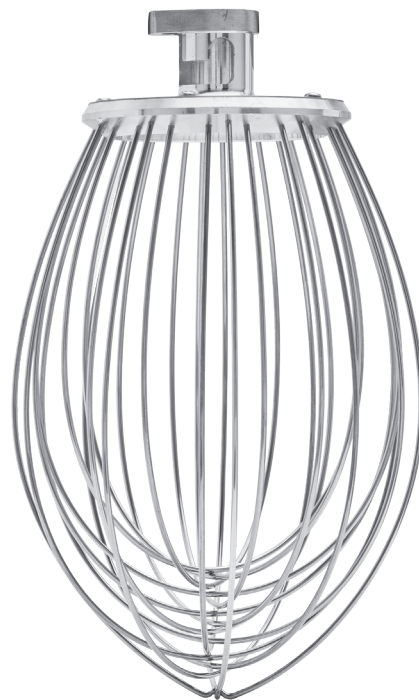

Fig. 9
- Close the bowl guard wire cage; rotate it to your left until it stops in the closed position (Fig. 9).